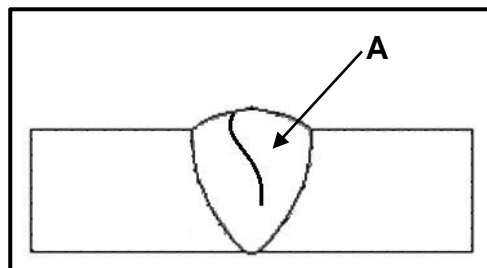

FIGURE 4.8
4.8 FIGURE 4.8 below shows a welding defect. Identify defect **A**.